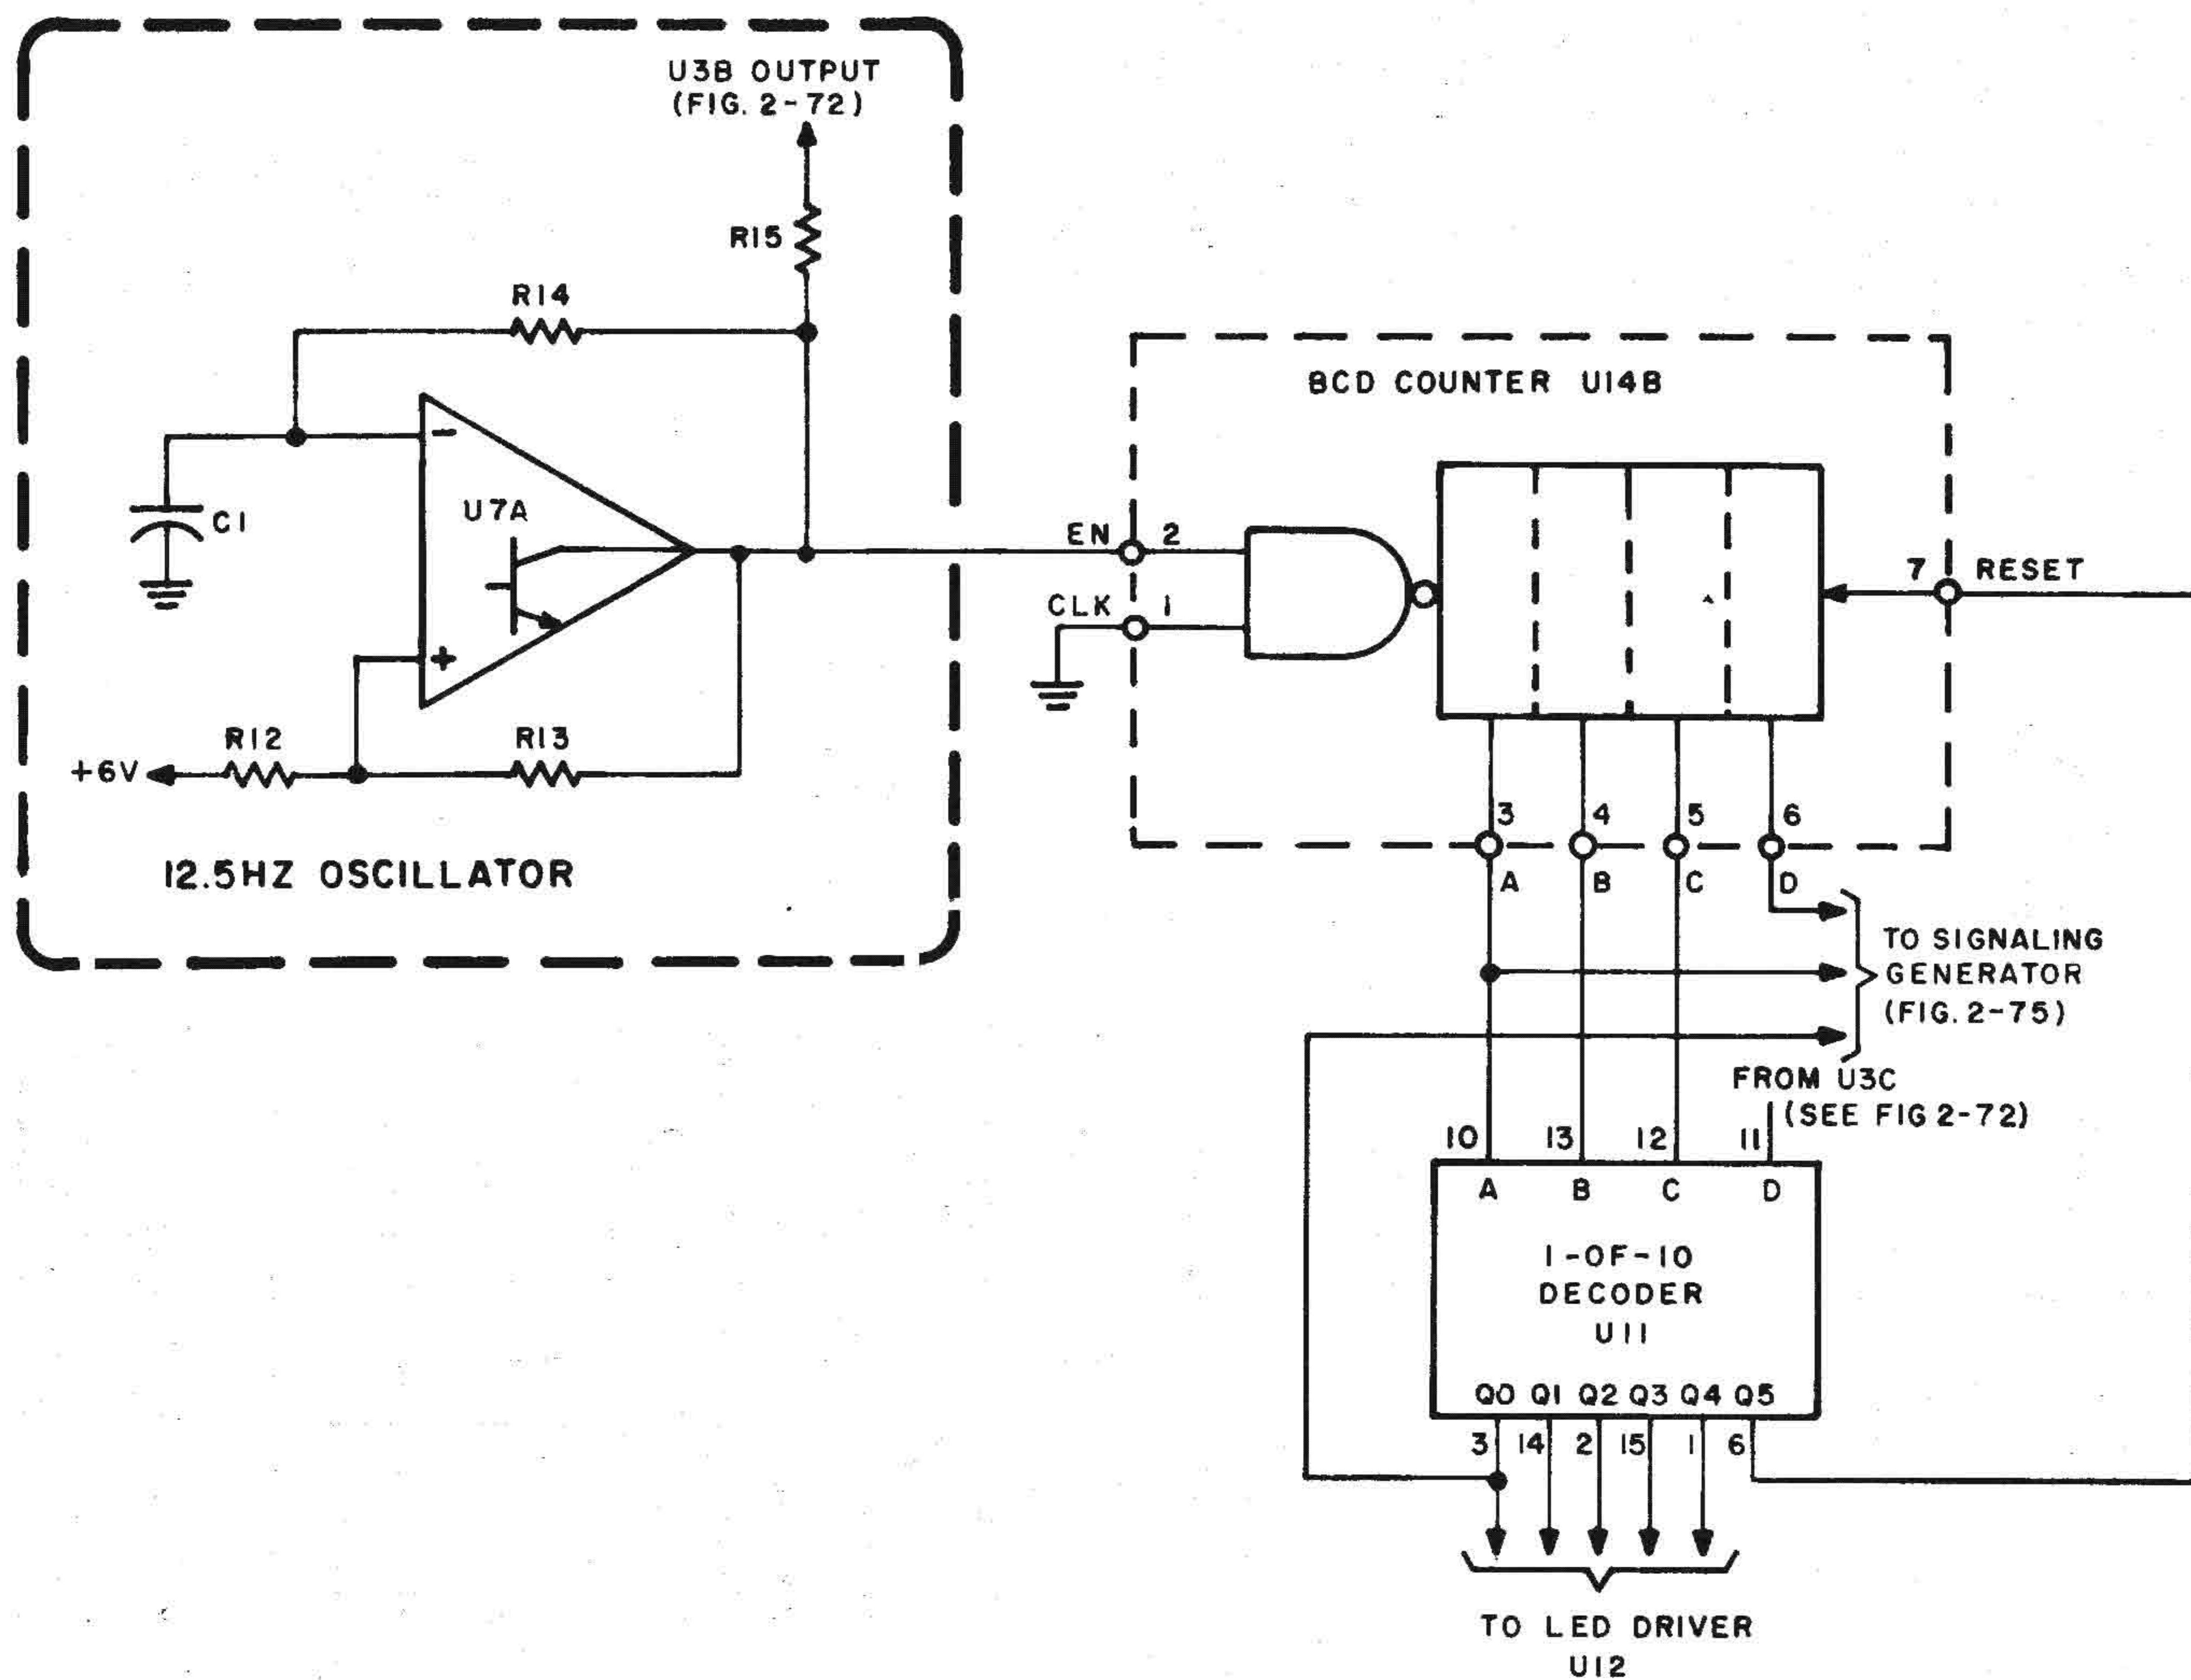

Fig. 2-73. Tuning indication control, simplified circuit diagram
(6) Tuning indication control circuit (fig. 2-73, 2-74). The tuning